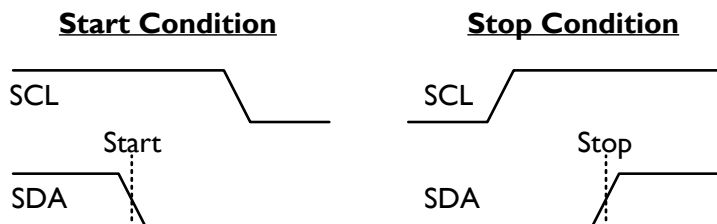

Fig. 8: I2C bus start and stop conditions.
Each transmission is initiated when the master sends a '0' start bit (S), and the transmission is terminated when the master sends a '1' stop bit (P). **These bits are exclusively transmitted while the SCL line is high.** The waveforms corresponding to these conditions are illustrated in Fig. 8.
Once the start condition has been set, the SCL line is toggled at the prescribed data-rate, clocking subsequent data transfers. Data on the SDA line is always sampled on the rising edge of the SCL line and must remain stable while SCL is high to prevent false Start or Stop conditions (see Fig. 8).